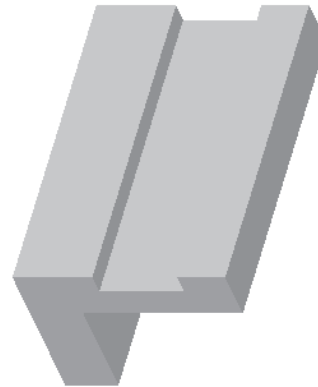

Figure 4-82 Base feature of the model
- b. Select the sketch plane for the base feature, draw the sketch using the sketching tools, apply the dimensions and constraints, and then extrude the sketch to the given depth, see Figure 4-82.
The base feature is completed as shown in Figure 4-82. You can use the CTRL+middle mouse button to spin the model to view it from different directions.